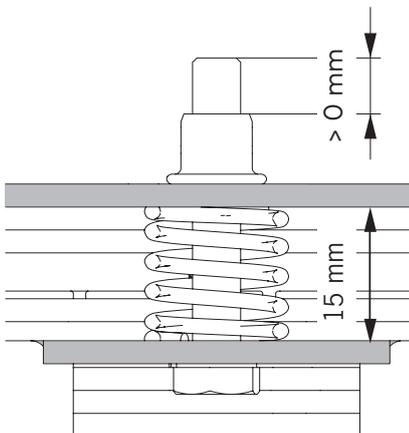

Fig. 144 Height adjustment
3. Preset adapter plate of the operator via the height adjustment (6x) (Fig. 144) on the circumference of the operator to approx. 15 mm.
8. Adjust the adapter plate of the operator via height adjustment (6x) (Fig. 144) on the circumference of the operator so that the wing brushes on the top touch the lower ceiling element.